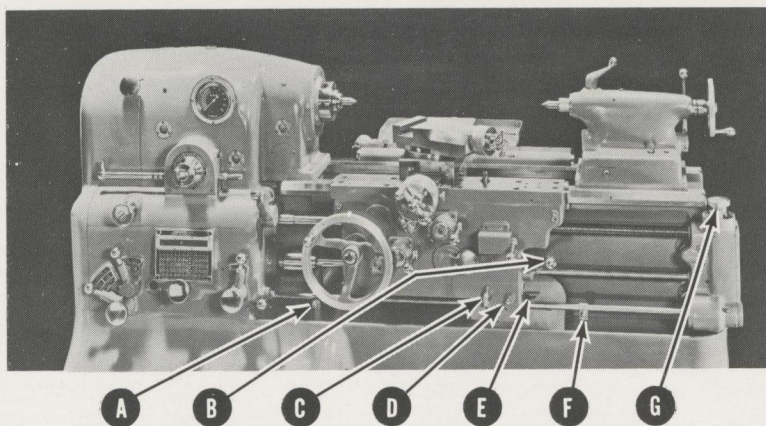

FIGURE 11. Electric Leadscrew Reverse
1. Set knob (G) Figure 11 for right hand or left hand threads as required.
2. Rough position stops (A) and (F) for the start and finish position of the carriage.
3. Loosen lock (D).
4. Knob (C) provides final position adjustment for the carriage stop bars (E) .